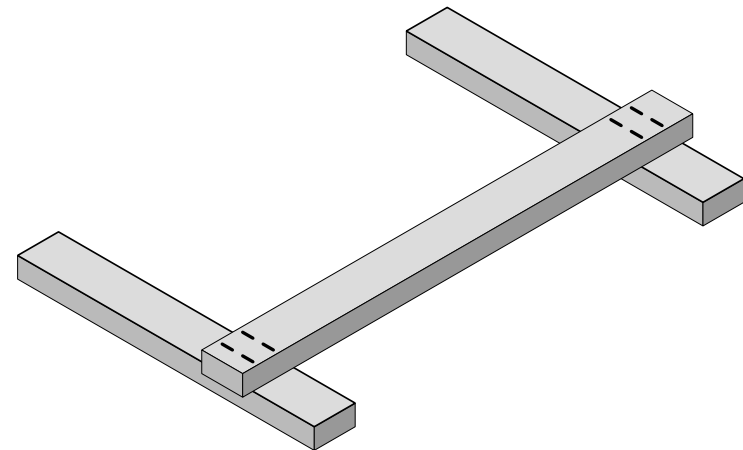

Figure 3: finished U-frame.
- 2) Next make up the two U-shaped front and back frames like those shown in figure 3. If you have a G clamp you can use it to hold two pieces of the frame together during nailing and clenching. It's quick and you can tap the bits with a hammer until everything is square and straight.